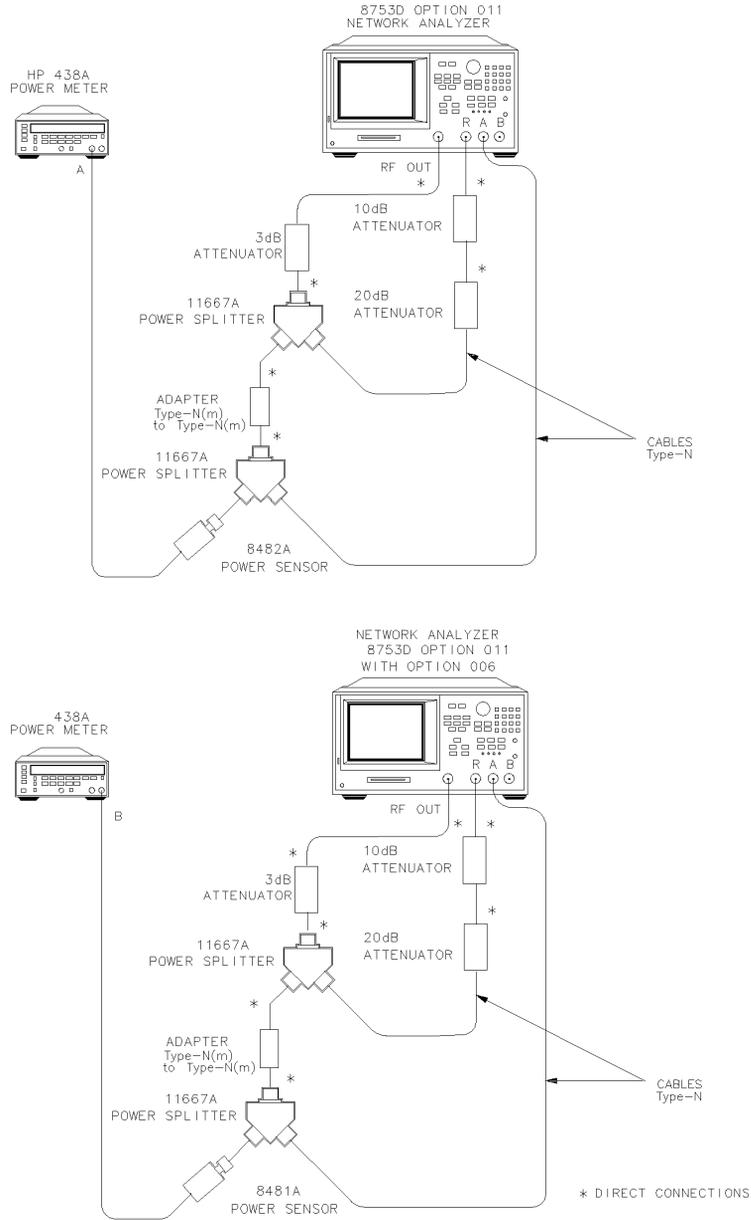

Figure 6-26. Channel A Magnitude Compression Test Setup
- 2** Connect the equipment as shown in Figure 6-26.